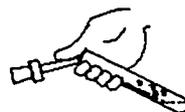

Figure C-3-2
3. When all the flies are on the sides of the test tube, use your eye dropped to put in _____ ml of H_2O . (Do not drown them and try not to let any out.) See Figure C-3-2, "Adding H_2O ."